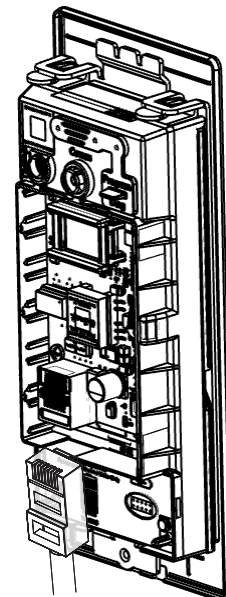

Fig. 13a
Important - before inserting PoE plug into PoE connector, apply dielectric grease to top of plug, covering the pin area (Fig. 13a).
- Once controller is securely in place, connect RJ45 male connector to female RJ45 port on controller board (Fig. 13a).